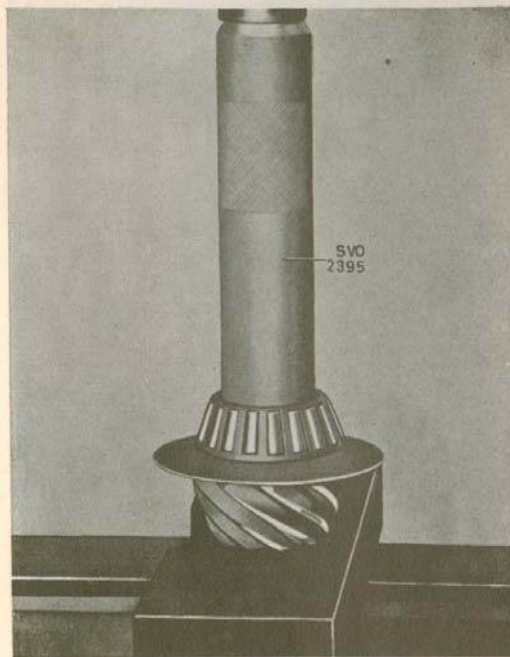

Fig. 5-20. Fitting the rear pinion bearing
2. Fit the oil slinger washer (31) on the pinion (28). Press on the rear bearing (29) with tool SVO 2395, see Fig. 5-20.